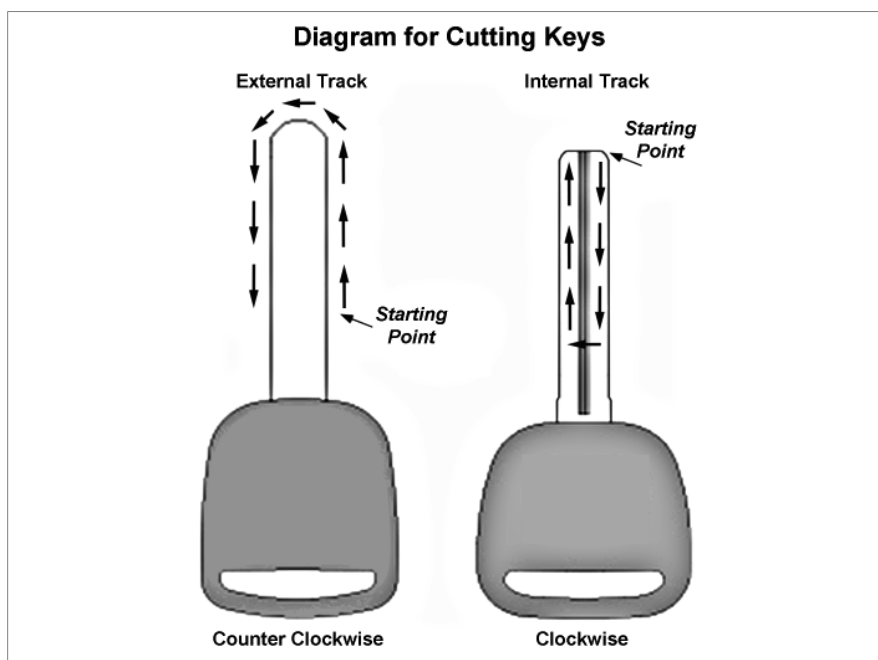

Fig. 15
**NOTE: before attempting to cut laser (sidewinder) type keys, deactivate the spring system for dimple keys using knob (O).**
- 3) Using lever (I) lower the Z-axis until the tracer rests lightly on a CUT portion of the pattern key.
- 4) While maintaining light contact tighten the Z axis locking knob (R) to secure the Z-axis in this position.
- 6) Once the key blank and pattern keys have been properly clamped, press the motor start switch (Q) to activate the cutter motor.
- 7) Determine the starting point for your cut (see Fig. 15).
- 8) Using lever (C), trace the pattern key while moving the cutter into the the key blank.